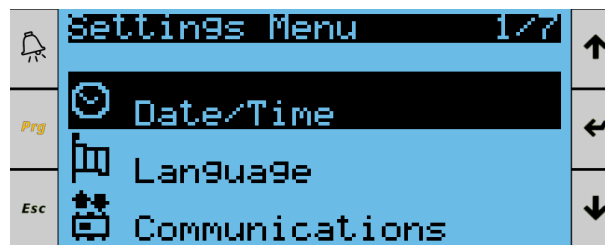

Figure 80. Settings Menu, Page 1
20. Return to the Settings Menu and navigate to Communications shown in **Figure 80** below.